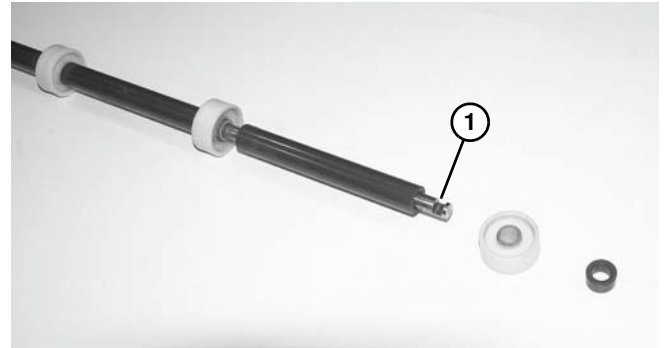

Figure 83
Note orientation of components and notch (Figure 83, item 1) on shaft before installing assembly. Notch will be facing down to attach into retainer plate on conveyor.